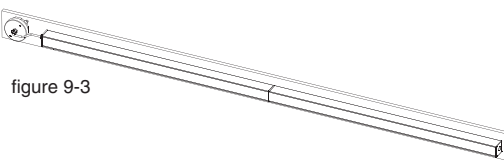

figure 9-3
- m. Place your expansion bolts in the second fixture, and replace the lens. **Fig 9-3.**